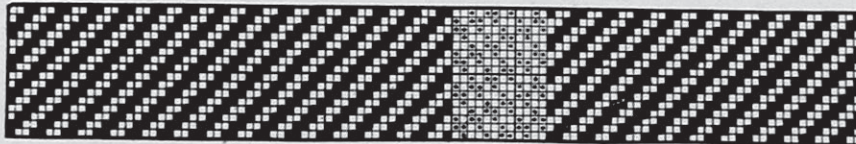

Fig. 1
To more clearly explain the construction and operation of this shuttle, the accompanying four illustrations are given, and of which Fig. 1 is a plan view of the shuttle with its spindle in position in the cavity of the shuttle. Fig. 2 is a plan view of the spindle removed from the shuttle and contracted. Fig. 3 is a view of the shuttle in side elevation, a part thereof being broken away to show the internal mechanism. Fig. 4 is a transverse sectional view on the line *x — x* in Fig. 3.
*Weave:* See Fig. 1; repeat 108 by 4; 8, 12 or 16-harness fancy draw.